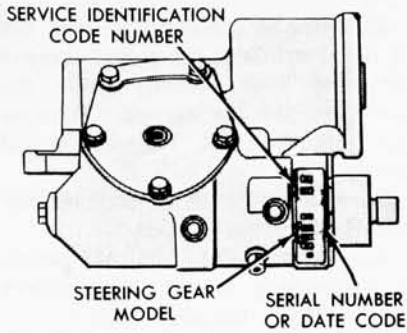

FIG. 4—Steering Gear Identification Tag G1175-A
2. Install the replacement ball joint in its recess in the upper arm so that the ball joint notch faces the front of the car (Fig. 4).
An identification tag is attached to the machined pad on top of the steering gear housing (Fig. 4) with a self-tapping screw.